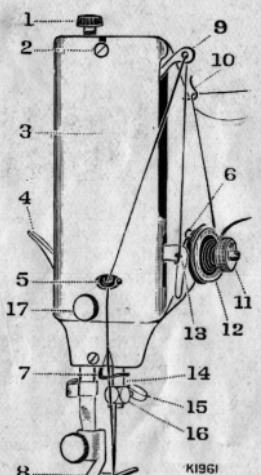
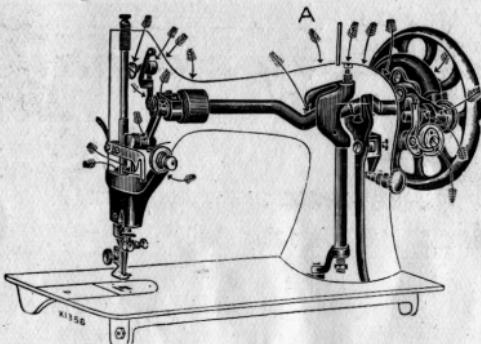

Fig. 5.
Fig. 15.
(See Fig. 5).
Loosen the balance wheel and place a reel of thread on the spool pin. Pass the end of the thread through the wire guide (10, Fig. 5), then into the lower eyelet (5) of the thread guide from below, and into the notch (2) at its top. Now thread the bobbin by passing the thread through the hole in its left disc from the inside, and with the left hand press it on to the bobbin winder spindle (1) and hold.
Raise the take-up lever (9, Fig. 5) to its highest point by turning the balance wheel towards you, and lift the presser foot; then move the material back and to the left, and sever the threads by passing them over the thread cutter above the presser foot. Leave the ends of the threads a few inches long under the presser foot.
For ordinary family sewing it is seldom necessary to change the pressure on the material. If sewing fine silk or flimsy material, lighten the pressure by giving the thumb screw (1, Fig. 5) two or three turns upwards. If it be found necessary to increase the pressure, give the thumb screw a few turns downwards.
All moving parts in contact must be covered with a film of oil **and not allowed to become dry**. Oil should always be applied at the points indicated by arrows in Figs. 15 and 16, a drop of oil being sufficient at any place. To oil the needle-bar mechanism, remove the face plate (3, Fig. 5) by unscrewing the knurled screw (17, Fig. 5) and loosening the small screw (2, Fig. 5). **It is most important that oil should be applied at the point marked "A" (Fig. 15) when the take-up lever (9, Fig. 5) is at its lowest point.** When oiling, insert the oil can spout well into the oil holes. Apply a drop of oil to the small piece of felt lubricating the oscillating hook and to the rollers at the right of the hook shaft. There are also two holes in the hand attachment to which oil should be applied occasionally.
- The thread take-up spring (6, Fig. 5) being broken.
Stitches Looping.—This is regulated by the tensions (see page 12). See that both the bobbin case and the needle are properly threaded, and that the thread used is of good quality and the correct size for the needle (see Table on inside of back cover). See that the thread take-up spring (6, Fig. 5) is not broken.